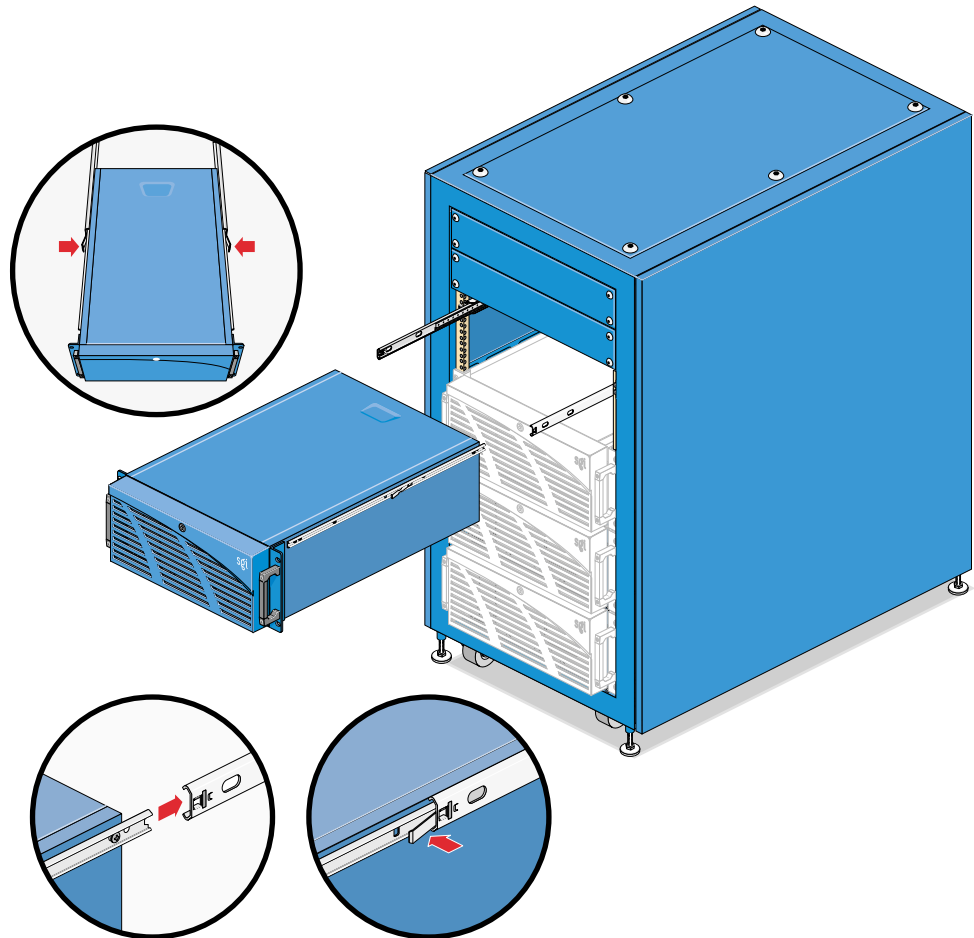

Figure 4-9 Slide Rail Levers
Note: To push the node back into the system, push in the lever on each slide rail; see Figure 4-9 on page 47.
3. To extend the slide rails fully so that you can pull the node all the way out, use your thumbs to push in the levers on the rail at each side of the node as you pull out the node; see Figure 4-9.
4. Release the levers and pull the node forward off the slides; see Figure 4-9. Lift out the node and place it on the work surface.